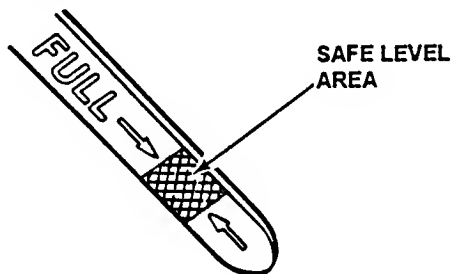

FIGURE 2.1
- 2.1.3. Check engine oil and add oil as needed to bring level up to the FULL mark. Refer to engine owner's manual for oil specifications. See Figure 2.1.